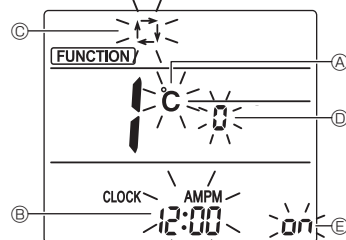

Fig. 6-10
3. Check that function No. "1" is displayed, and then press the **SET** button ③. The display setting screen will be displayed. (Fig. 6-10)